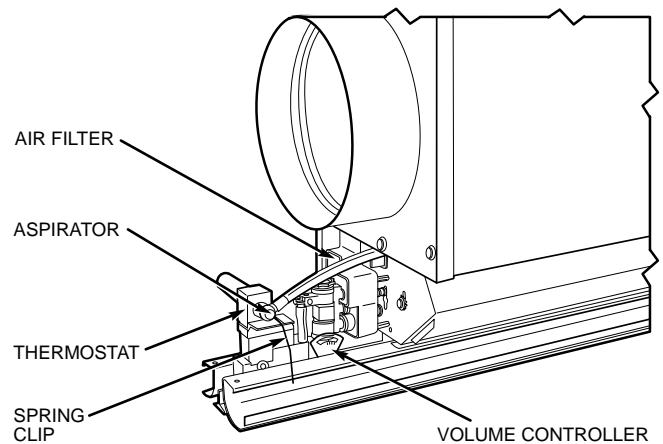

Fig. 20 — 37HS1 with 47-in. Diffuser and 37HS2 VAV Control Installation
9. Install the thermostat on the center diffuser, then snap spring clip over thermostat and onto the side diffusers to hold thermostat in place. See Fig. 20. Make sure that thermostat lever will rotate.
Figure 20 shows the completed installation. The brass tee is used for slave unit connection where 3 or more units are used in air series. See Interconnecting Tubing, All Models, page 8.